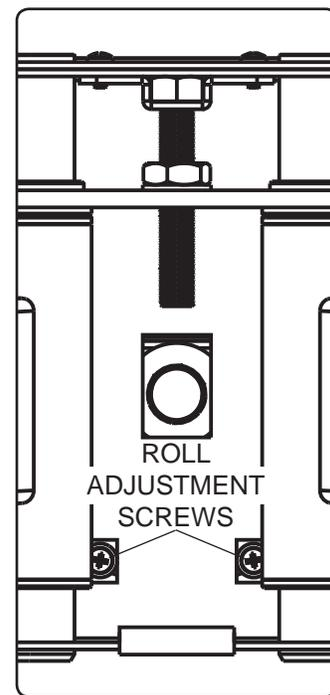

fig 7.1
- 7 Depending on the specific size & weight of the plasma, articulating swing arm may be angled at different positions, causing plasma to appear to lean sideways at different articulating positions. Tilt roll assembly (B) allows plasma to be manually adjusted, so plasma can be horizontal at all positions. To adjust, gently rotate plasma by hand to desired position.
- 7-1 If it is too difficult to adjust roll of plasma, loosen screws shown in figure 7.1 using a phillips screwdriver.